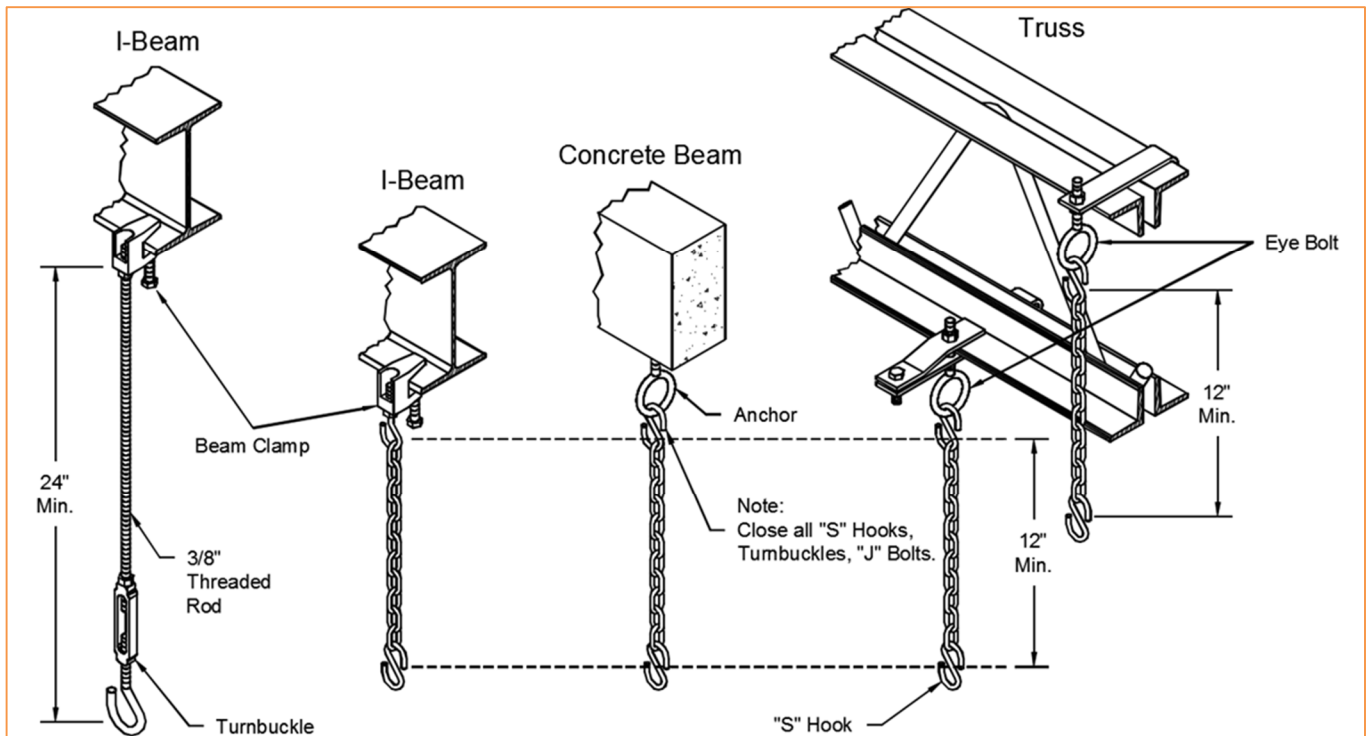

Figure 10: Ceiling Mounting/Hanging Options
1. Locate hanging chain at predetermined points in the structure using methods as shown in Figure 10. The first 2 hanging points are approximately 7.5 ft. (2.3 m) apart to fully support each end of the first Tube. Thereafter spacing of 10 ft. (3 m) is acceptable, i.e. one hanging point per Tube. Ensure that Reflector Hangers located on a Combustion Tube will be within 8" (20 cm) of the Burner. Ensure that the mounting height allows a downward slope of $\frac{1}{4}$ " per 10 ft. (7 mm per 3 m) towards the Vacuum Pump location.